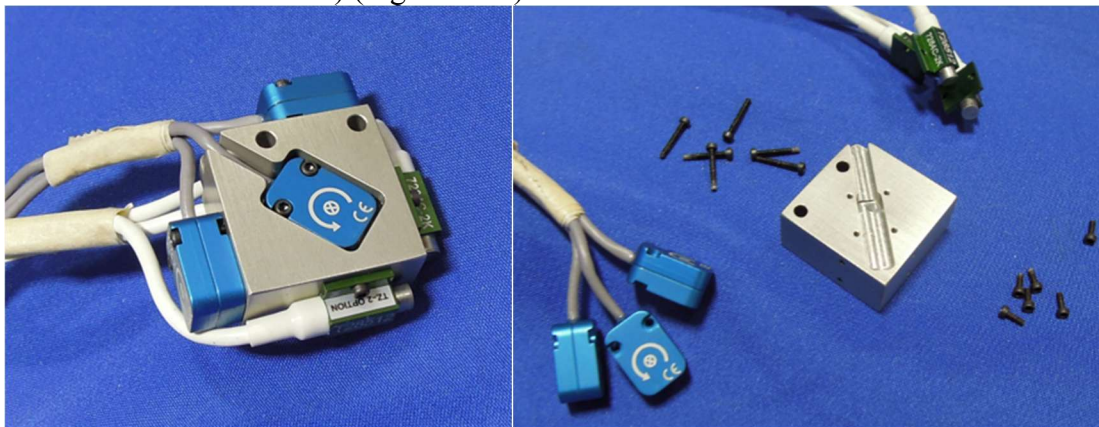

Figure 5-33. De-instrument the Mount (474-3067)
- 5.2.29 De-instrument the Mount (474-3067) by removing three ARSs (x2 M1.4 X 0.3 X 10 LG. SHCS) and three Accelerometers (x2 M1.4 X 0.3 X 4 LG. SHCS) (Figure 5-33).